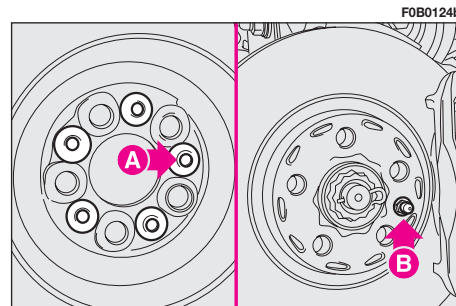

fig. 9
**20)** Fit the spare wheel making one of the holes **A**-fig. 9 coincide with pin **B**. Now tighten the five wheel bolts with the handle .